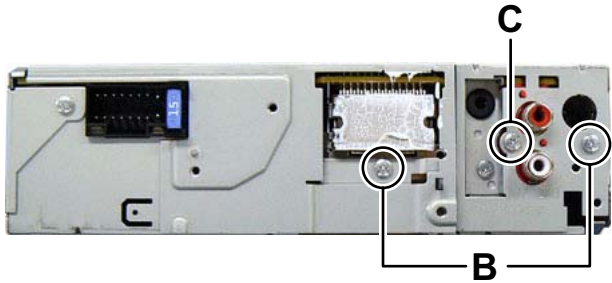

Fig.2
- (2) Remove the two screws **B** and one screw **C** attaching the Bottom chassis. (See Fig.2)
- (3) Slide to backward and then remove the Bottom chassis.
- (3) Solder the short land sections on the pickup. (See Fig.2.)
- Solder the short land sections on the pickup before disconnecting the flexible wire from the connector CN102 on the MECHANISM CONTROL BOARD assembly. If the card wire is disconnected without attaching solder, the pickup may be destroyed by static electricity. (See Fig.2.)